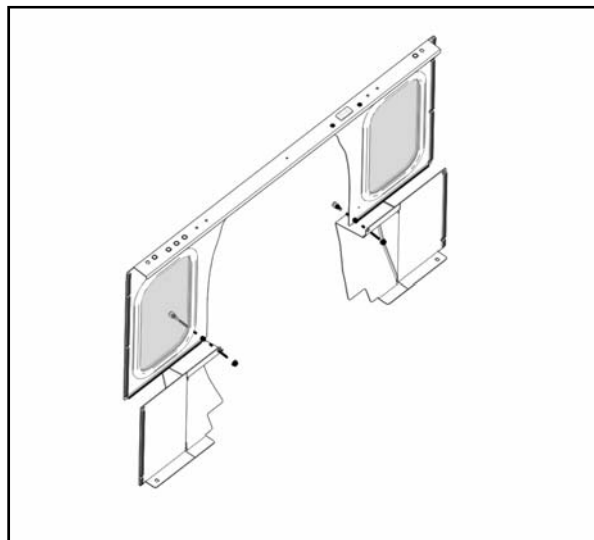

Fig. 4.1 (Cowl pre-assembly)
**4.1** Pre-assemble the cowl and front legs (as shown in fig. 4.1) by fastening together at the inside hole only, using the hardware listed below, with the bolts to the outside.